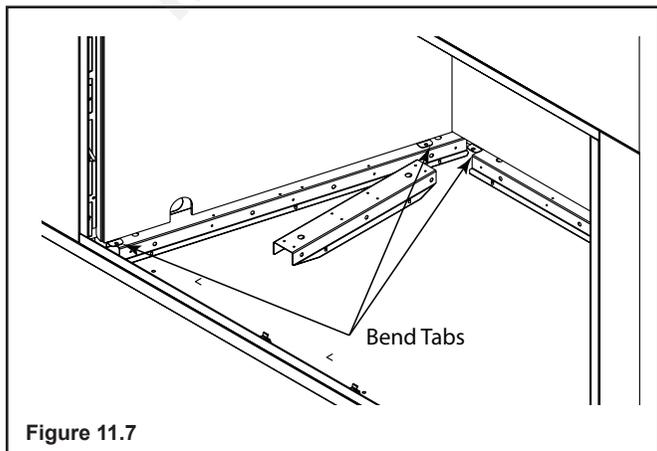

Figure 11.7
- Bend up (2) lower retaining tabs on rear refractory brackets, set the back glass panel on rear brackets. See Figure 11.7. Bend down (2) upper retaining tabs to secure glass panel in place. Proper Back Glass Panel orientation shown below.
- Bend up (2) lower retaining tabs on left refractory brackets, set the left glass panel on left brackets. See Figure 11.7. Bend down (2) upper retaining tabs to secure glass panel in place.